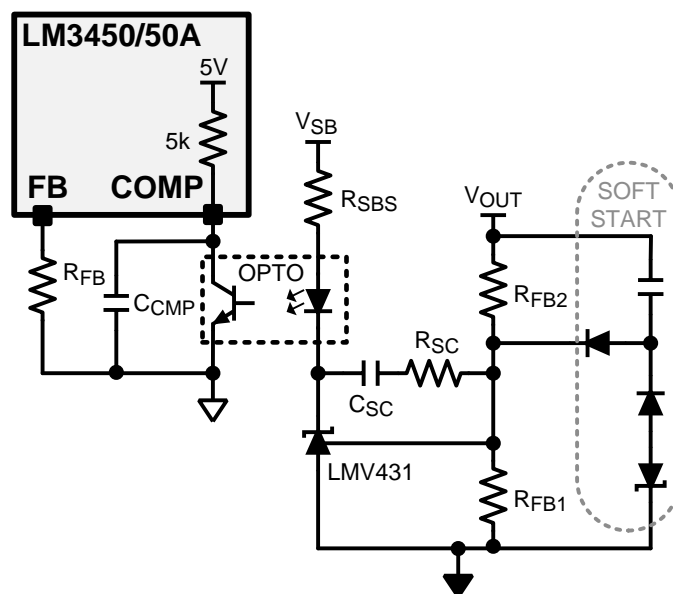

Figure 23. Secondary Error Amplifier
For isolated designs, the error amplifier on the secondary should take the form of a proportional integral (PI) compensator. The amplifier is frequently implemented with an LMV431. The output voltage resistor divider (R_{FB1} , R_{FB2}) provides the sensed output voltage to the LMV431 inverting input. The PI compensation is achieved by connecting R_{SC} and C_{SC} in between the LMV431 input and output, shown in Figure 23. In addition, C_{COMP} is placed from COMP to GND on the primary for higher frequency noise attenuation.
In addition to the basic error amplifier, a soft-start circuit can be implemented using a capacitor, two diodes and a Zener diode as shown in Figure 23. This secondary softstart circuit has no restart mechanism, therefore a primary side softstart is recommended as described in the **SOFTSTART** section of this document.